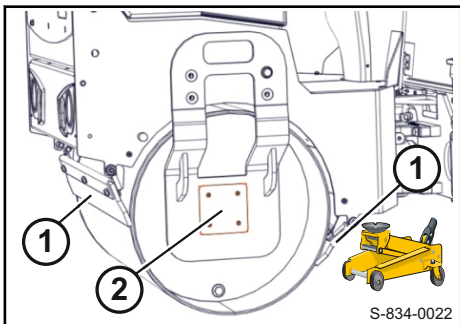
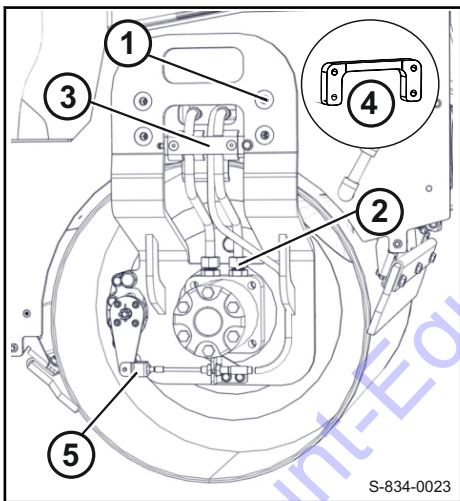

Fig. 254
Fig. 255
3. Lift the rear frame up ↩ Fig. 254 and support it safely.
4. Unhook the springs to relieve the scrapers (1).
5. Disassemble the covering plate (2).
6. Mark the hydraulic hoses 2 ↩ Fig. 255 and disconnect them from the ports.